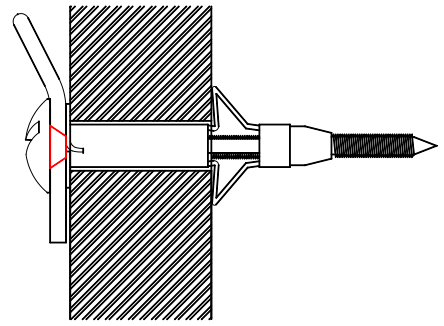

FIGURE 02
2. Hold the bracket (1) against the wall and mark with pencil the locations of the bracket screw holes, ensuring levelness. See **FIGURE 02**.
4. Tighten the screws into the anchors while maintaining constant pressure on the anchor to set. Remove screws. Hold metal bracket over the inserted anchors and reinstall screws through the wall bracket holes and tighten until snug against wall. See **FIGURE 02**.